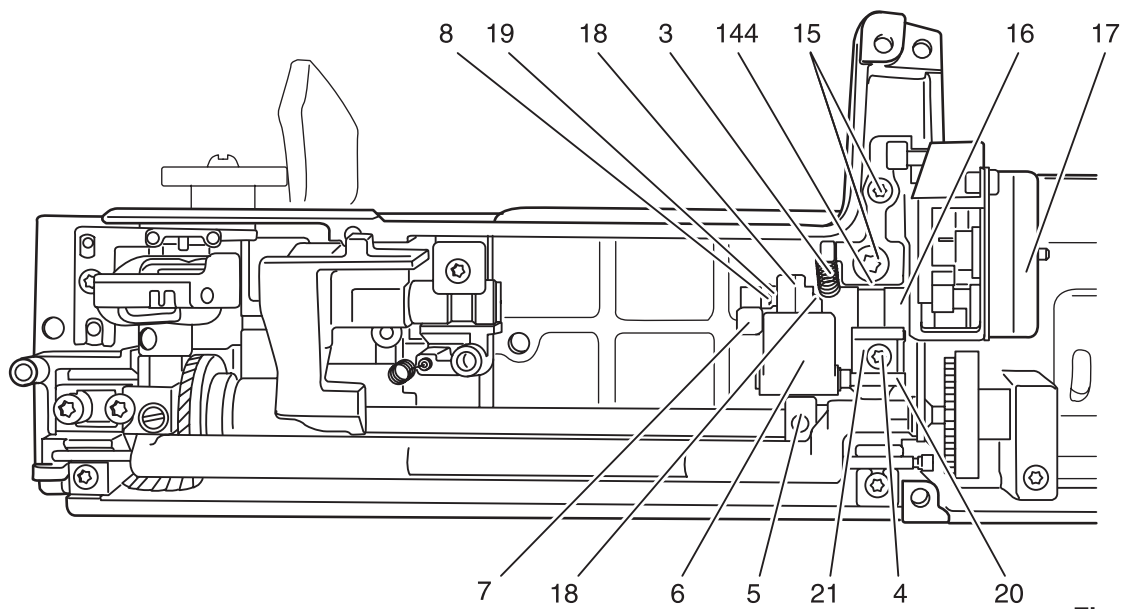

Fig. 88
- Remove tension spring 3 (fig. 88).